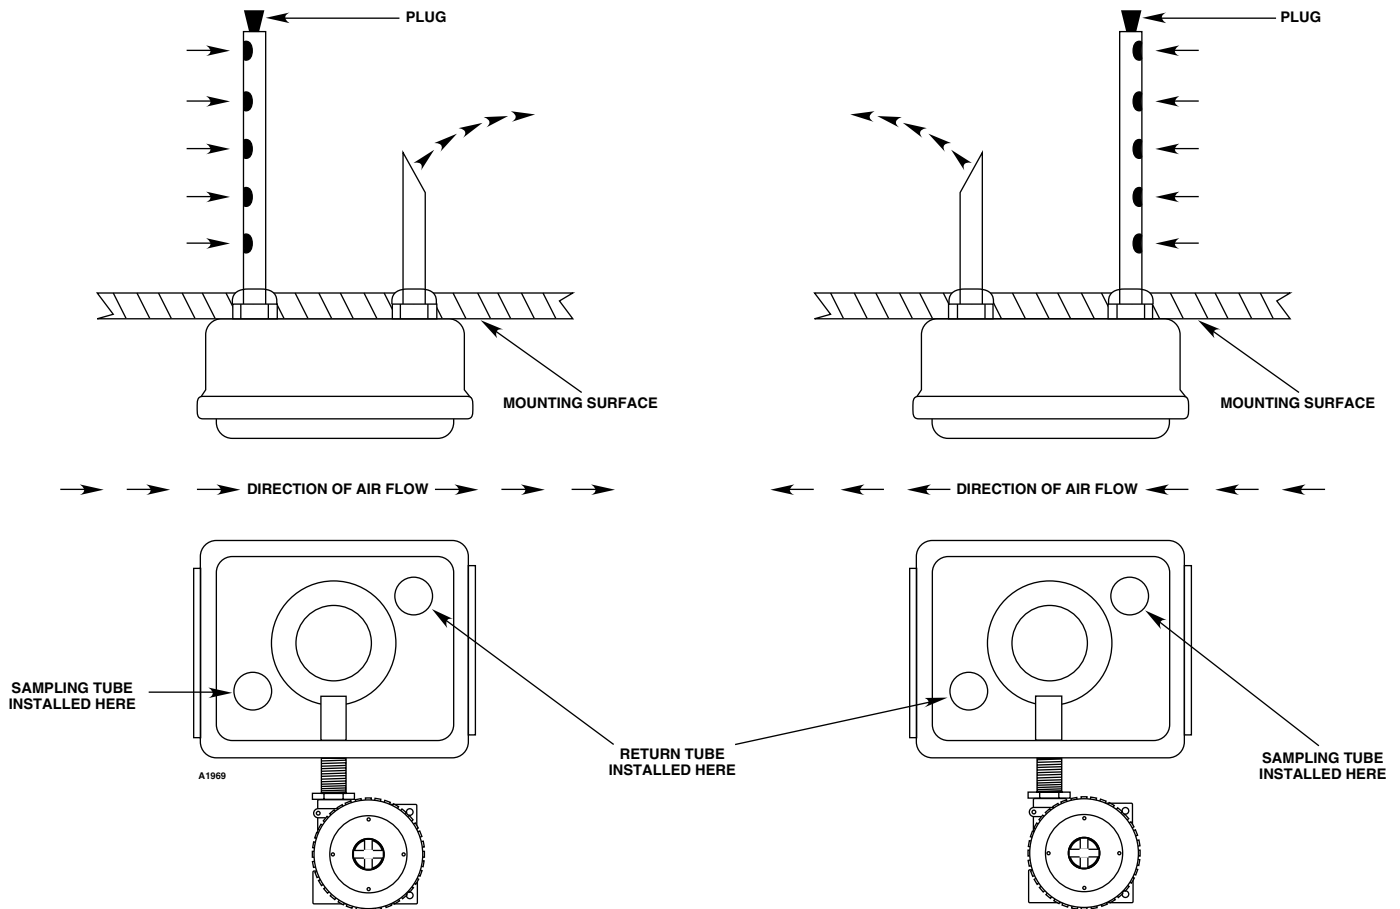

Figure 3—Tube Position and Orientation
To ensure proper operation of the sampling tube within the air duct, be sure to observe proper sampling and return tube position and orientation as illustrated in Figure 3.
3. Attach the return tube to the detector housing by sliding the tube into the connector body and rotating the tube until the key notch slips over the alignment pin in the connector. The opening at the end of the tube is cut at an angle. This opening must always face downstream or away from the direction of air flow in the duct, as shown in Figure 3. Tighten the compression nut until the tube is stable.